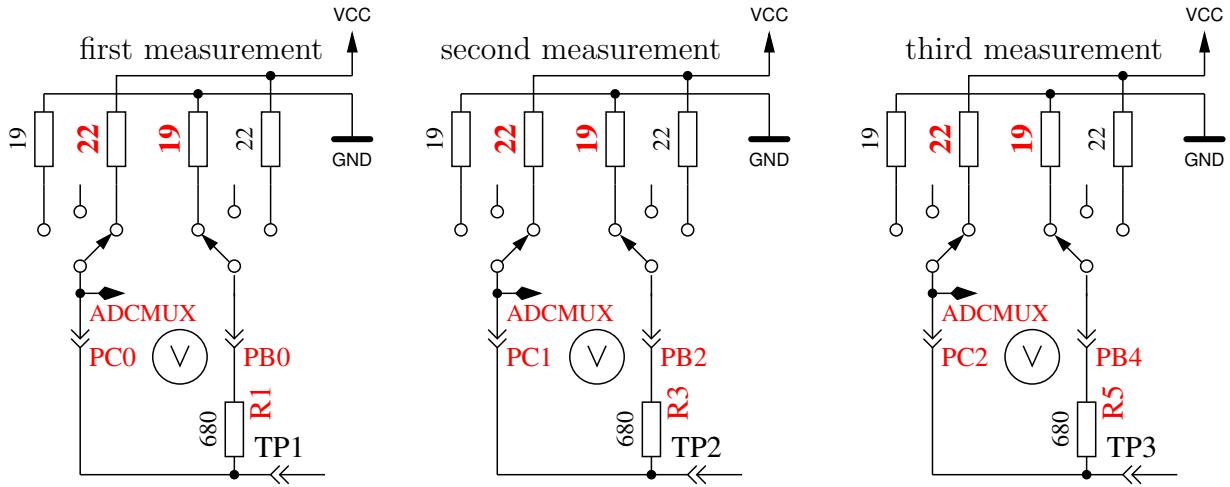

Figure 5.67. Measurement of internal resistance of Port C switched to VCC
9. Measuring of internal resistance of port outputs switched to the VCC (+)signal. The needed current is generated with to GND connected 680Ω resistors . It are the same measurements as those in test 8 to the other side as you can see in Figure 5.67. With the following steps the resistance is computed: To get the current, the following is computed: $(VCC - (resultoftest8) - (resultoftest9))/680$. To get both resistor values, the voltage (result of test 8 or 9) is divided by this current. The result for this test will then be notified in row 1 with the text "RI_Hi=", the resistance value (Ω) to the GND side is displayed in row 2 with the text "RI_Lo=". Beginning with version 1.06k of the software, the port output resistance values are determined at the beginning of every measurement. The values are only shown by this step.